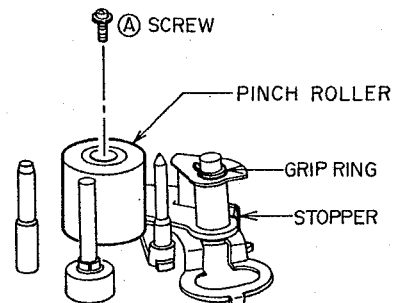

Fig. 3-17
- 1) Remove the Ⓞ screw, then remove the PINCH ROLLER part, as shown in fig. 3-17